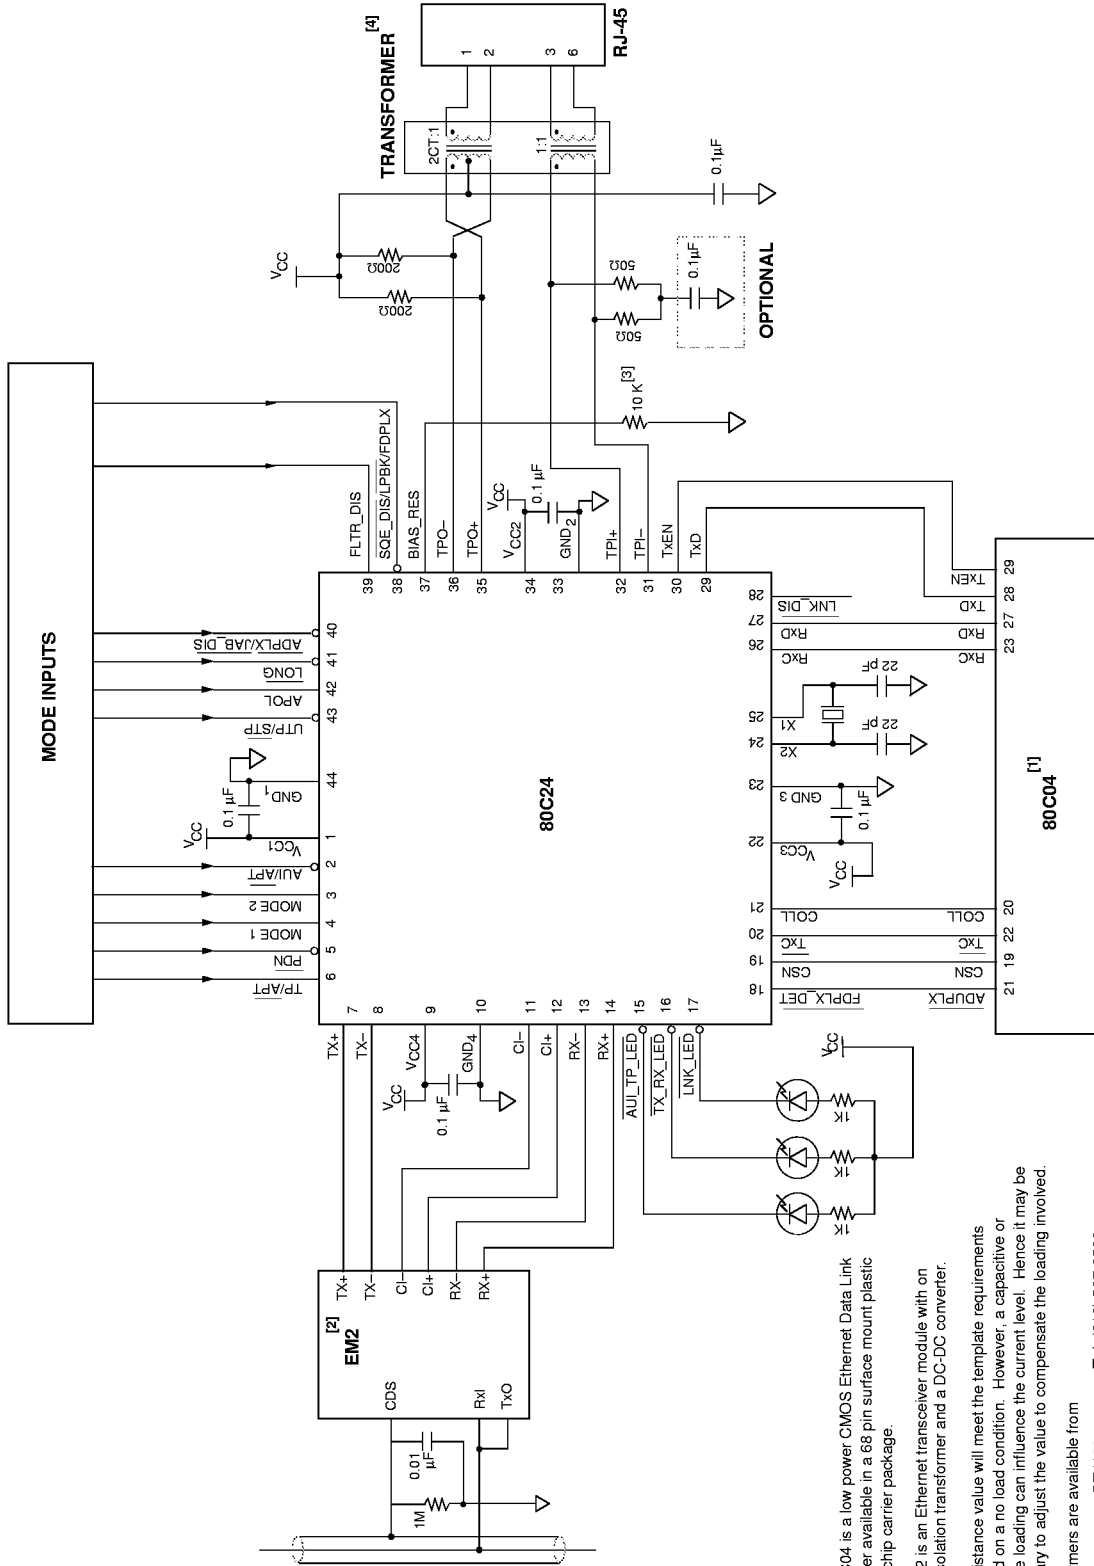

Figure 2. 80C24 in a Typical Application
with a ratio of 2:1 on transmit and a 1:1 on receive, with two 200 ohm resistors connected as shown in figure 2. The output driver is a current source. The output current level is set by the values of the resistor tied between the BIAS_RES (Pin 37) & GND. The current level is determined by the following equation.
The receiver receives the Manchester-encoded data from the twisted pair lines(TPI±) and passes it on to the ENDEC side, where it gets decoded back into the receive clock RXC and the receive data RXD. The inputs first goes through a receive filter, which is a continuous time 3rd order low pass filter with a typical 3 dB cutoff frequency of 20-25 Mhz. The filter's output then passes through two different types of comparators, namely threshold and zero crossing. The threshold comparator compares the TPI± inputs with fixed positive and negative thresholds called the squelch levels. The zero crossing comparator senses the transition point on the TPI± inputs without introducing excess jitter and the outputs goes to the PLL in the decoder. The receiver is transformer coupled and needs to be terminated with a 100Ω resistor or two 50Ω resistor and a capacitor as described in figure 2.
The V_{CC} connection to the transmit transformer center tap shown in Figure 2 has to be well decoupled in order to minimize common mode noise injection from V_{CC} onto the TP wires. It is recommended that a 0.01 μ F decoupling capacitor be placed between the center tap V_{CC} to the 80C24 GND plane. This decoupling capacitor should be physically placed within 0.5" of the transformer center tap.
5. TPO± loading as shown in Figure 2 or equivalent.